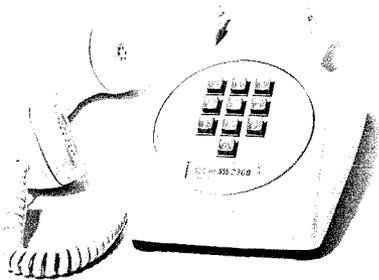

Fig. 2 — 1500 Type Telephone Set
**2.07** The 1500-Type TOUCH-TONE Set (Fig. 2) is basically the same as the 500-Type Set except that the dial mounting bracket and set housing have been modified to accommodate the 25-Type TOUCH-TONE Dial. The dial assembly contains a line powered oscillator which generates two frequencies when a button is depressed. These frequencies are transmitted to the central office which must be equipped with a converter.